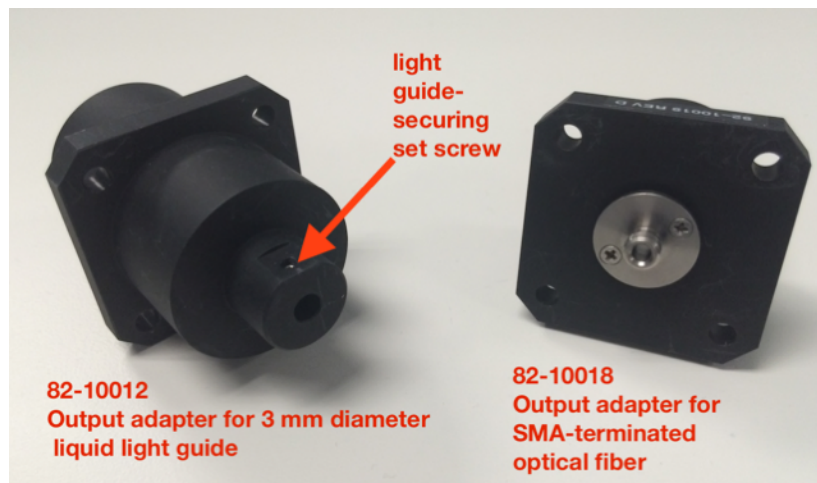

Figure 2. Output adapters for SPECTRA and SPECTRA X light engines.
- Output adapter for light delivery via 3 mm diameter liquid light guide or SMA-terminated optical fiber (Figure 2).
To install the output adapter, remove the shipping cover from the light output port on the front panel by extracting the four M4 fixing screws. Insert the output adapter (Figure 2) into the output port and secure it with an M4 fixing screw in each corner. Retain the light output port shipping cover and re-install it in the event that the light engine requires transportation. Attach the optical fiber or liquid light guide to the output adapter. In the case of liquid light guides, secure the tip of the light guide in the output adapter using the set screw provided (Figure 2). Prior to activating light output, be